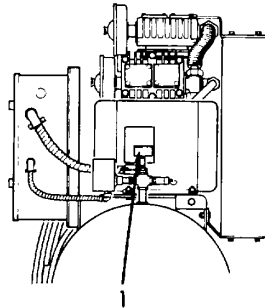

Figure 3-33. Pressure Gage, Removal.
- a. *Removal.* Unscrew and remove pressure gage (1, Figure 3-33).